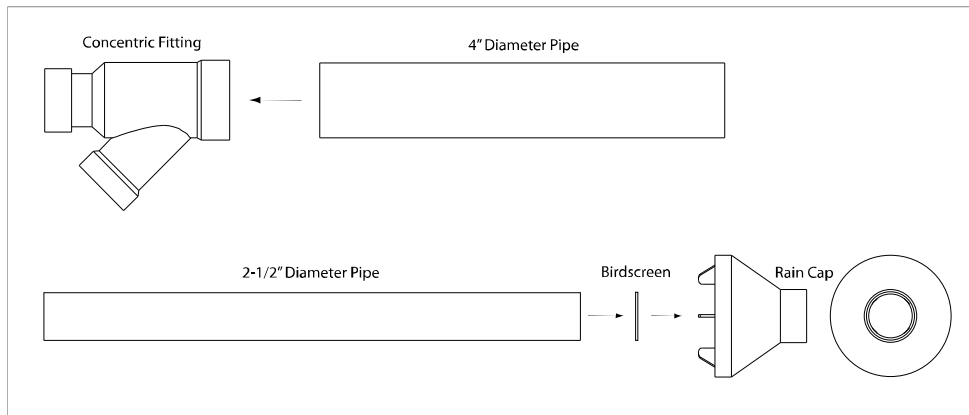
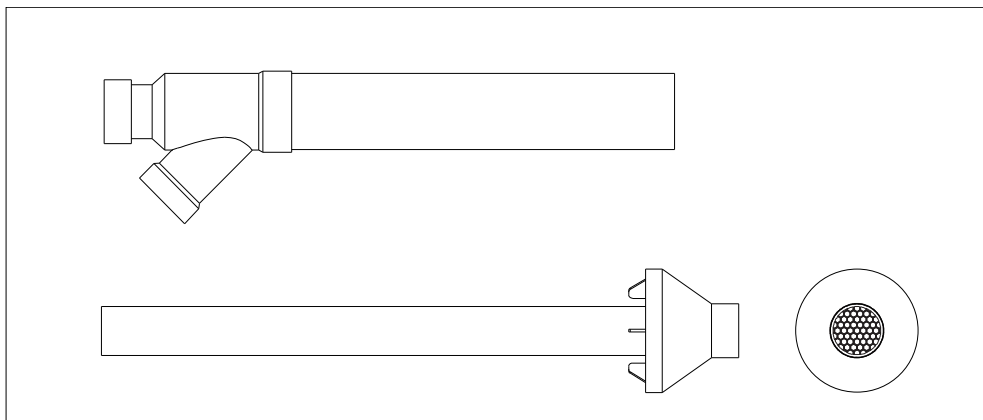

FIGURE 3: Concentric Vent Termination – Individual Components
FIGURE 4: Completed Pre-Assembly
- 2) Disassemble concentric vent termination into individual components as labeled in Figure 3 below.
- 4) Place the birdscreen into the opening on the end of the rain cap. Use cement or stainless steel screws (see NOTE on next page) to attach the 2-1/2 inch (64 mm) diameter pipe provided to the rain cap with installed birdscreen. See Figure 3 for proper setup and Figure 4 for finished pre-assembly.